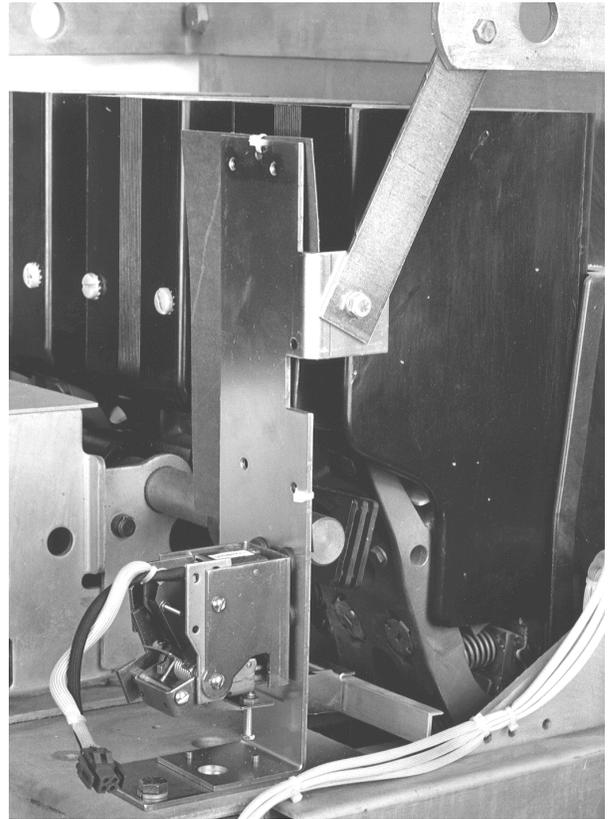

Figure 23. Installed flux shifter and trip unit mounting bracket (DB-50).
1. Mount the trip unit bracket assembly to the right side of the breaker frame, as shown in Figure 23:
3. Attach the support bracket to the breaker frame with the $\frac{1}{4}$ -20 x $\frac{3}{4}$ " bolt provided, as shown in Figure 23. The trip unit bracket should be parallel to the breaker back frame.